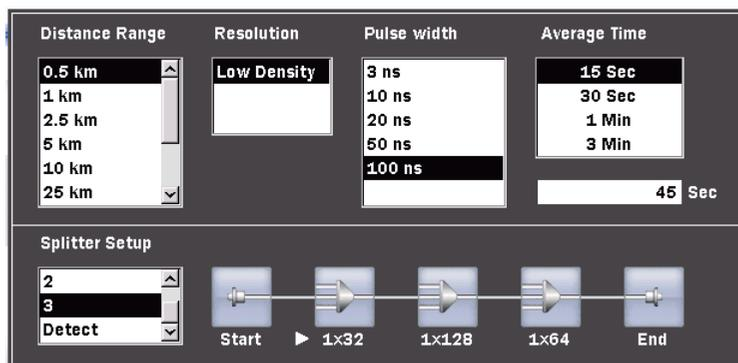

Figure 5-22: Range/Resolution/Pulse Width/Average Time/SplitterSetup Dialog box
1. Press **Test Parameters (f4)**, the Distance Range, Resolution, Pulse width, Average Time dialog and Splitter Setup box appears (see Figure 5-22 on page 5-56).